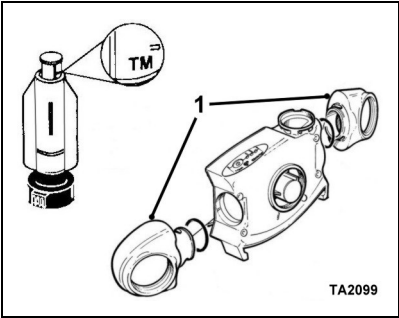

Fig. 1
The basic blower has single filter port. Two additional filters can be fitted by replacing blanking plugs, at each end of the blower body, with filter adaptors (shown as 1 in Fig. 1).
- b) Check that the float rises completely above the TM line (see Fig. 1).